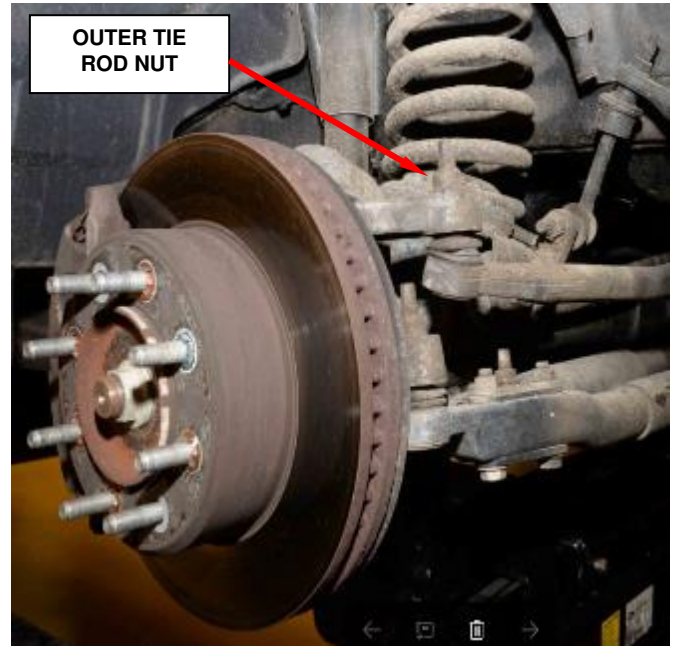

Figure 11 – Outer Tie Rod
3. Remove and **DISCARD** the outer drag link to tie rod nut (Figure 11).